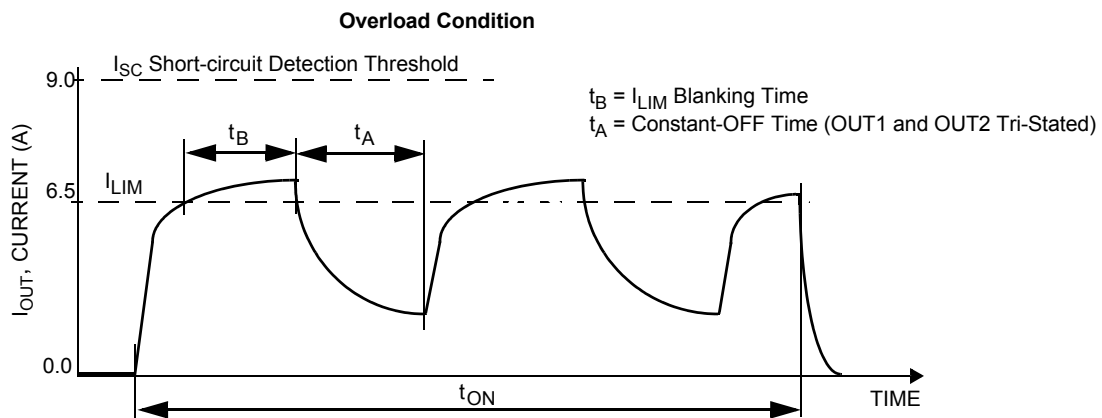
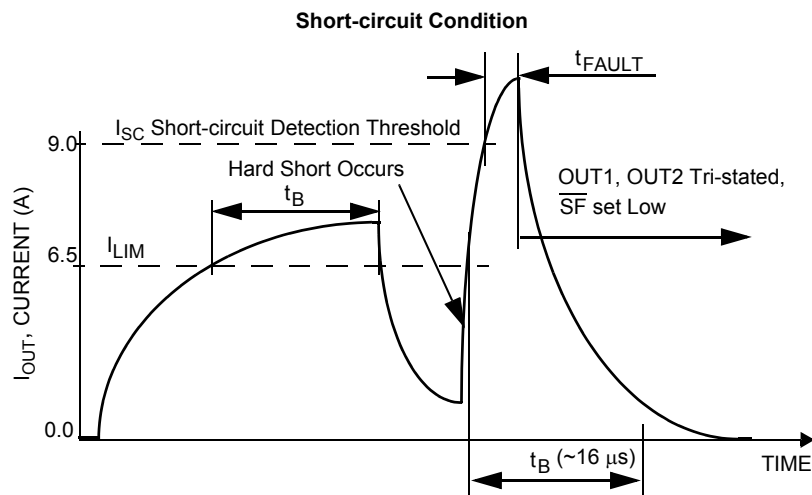
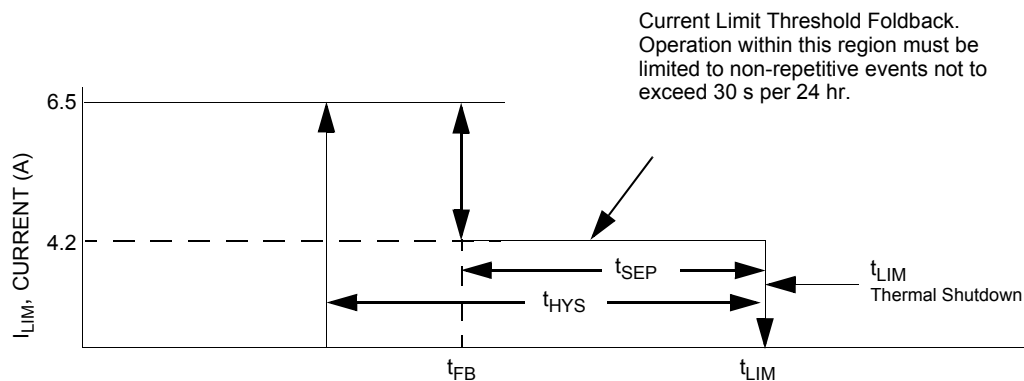

Figure 7. Current Limit Blanking Time and Constant-OFF Time
Figure 8. Short-circuit Detection Turn-OFF Time t_{FAULT}
Figure 9. Output Current Limiting Foldback Region
28. Load currents ramping up to the current regulation threshold become limited at the I_{LIM} value (see Figure 7). The short-circuit currents possess a di/dt that ramps up to the I_{SCH} or I_{SCL} threshold during the I_{LIM} blanking time, registering as a short-circuit event detection and causing the shutdown circuitry to force the output into an immediate tri-state latch-OFF (see Figure 8). Operation in Current Limit mode may cause junction temperatures to rise. Junction temperatures above $\sim 160^\circ\text{C}$ will cause the output current limit threshold to "fold back", or decrease, until $\sim 175^\circ\text{C}$ is reached, after which the T_{LIM} thermal latch-OFF will occur. Permissible operation within this fold back region is limited to non-repetitive transient events of duration not to exceed 30 seconds (see Figure 9).